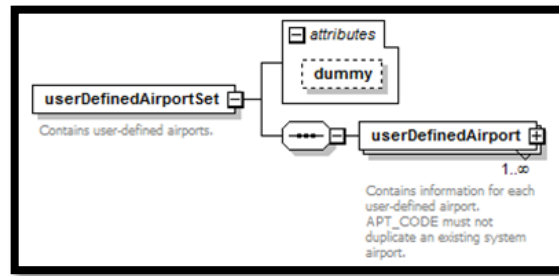

Figure 51. XML userDefinedAirportSet
1. **AsifXml/study/userDefinedAirportSet/userDefinedAirport** (Figure 51):